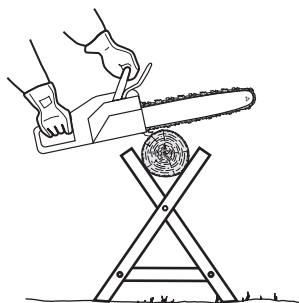

Fig. 44
- > Support small logs on a sawing stand or another log while bucking (Fig. 44).